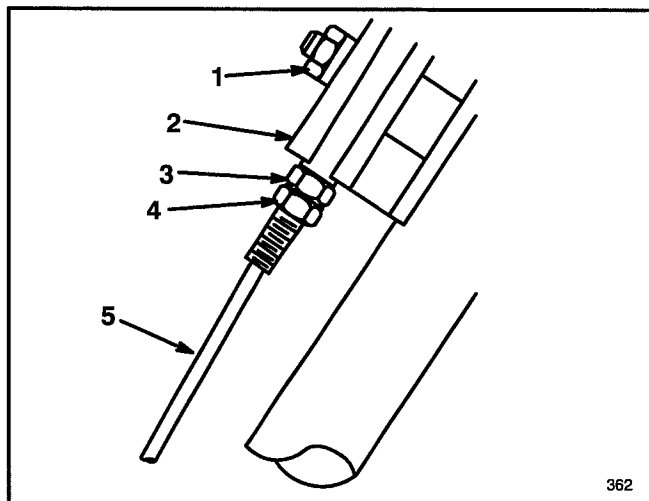

Figure 22
- Loosen nut on support block (Fig. 22).
- Loosen bottom jam nut on wheel traction cable (Fig. 22).
- Top jam nut should be against support block when adjustment is complete (Fig. 22).